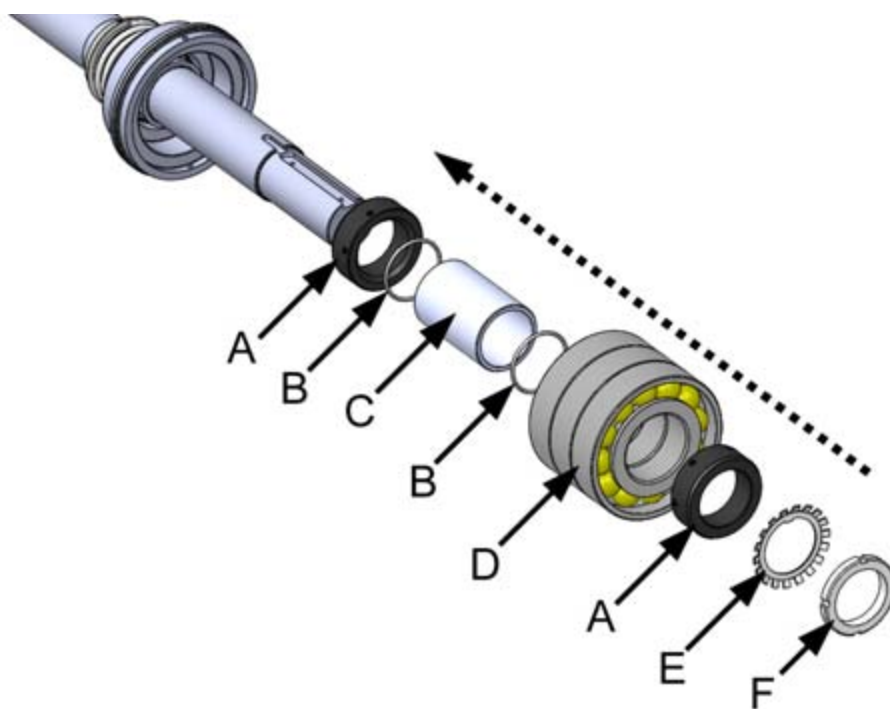

Figure 12. Pushing the bearings onto the shaft
- 2.1. Fit the sleeve, the o-rings and the shaft sleeve on to the shaft in the order shown in the figure (figure 12, points A, B and C).
- 2.3. Fit the sleeve onto the shaft (figure 12, point A).
3. Fit the lock washer onto the shaft (figure 12, point E) and screw the shaft nut (figure 12, point F) into place.